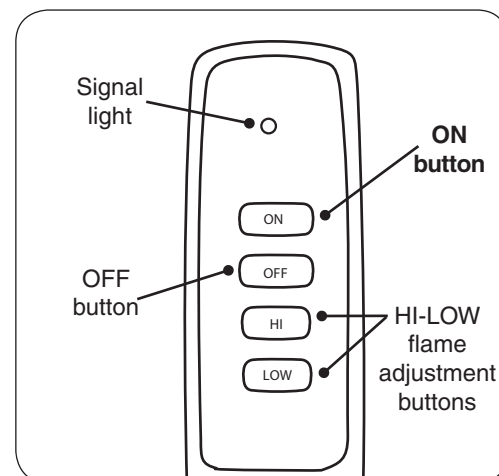

Fig. 17-3 Remote transmitter detail
3. Locate the remote transmitter and press the **ON** button (see Fig. 17-3). The system will beep and the ignition sequence will begin.